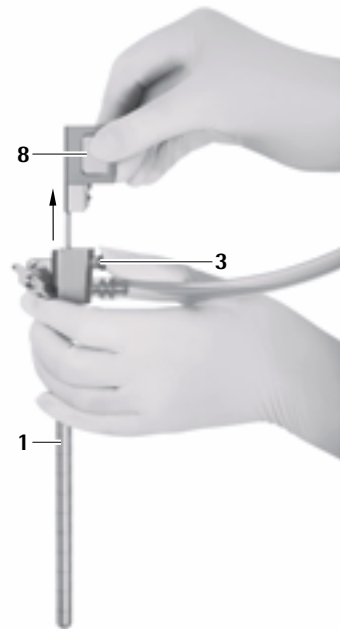

Fig. 10
- Press release button 3 and remove the obturator for the optical channel 8 carefully from the MINOP inVent trocar 1, see Fig. 10.